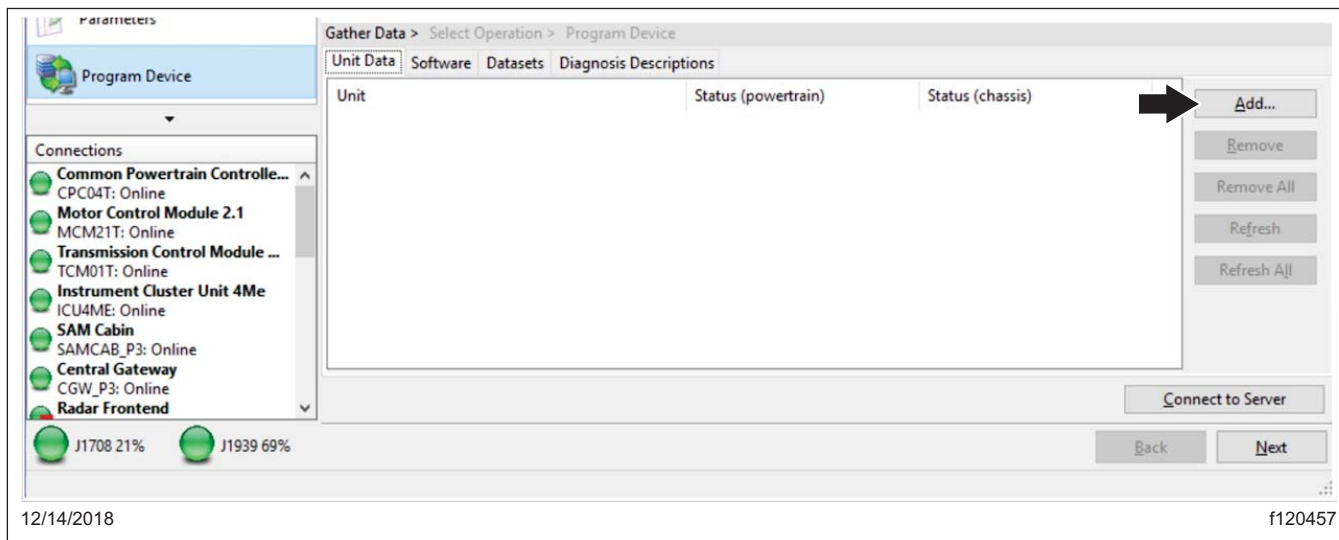

Fig. 6, Adding the VIN to Download Updated Server Data
6. Click "Add" to add a download request for the vehicle. See Fig. 6.